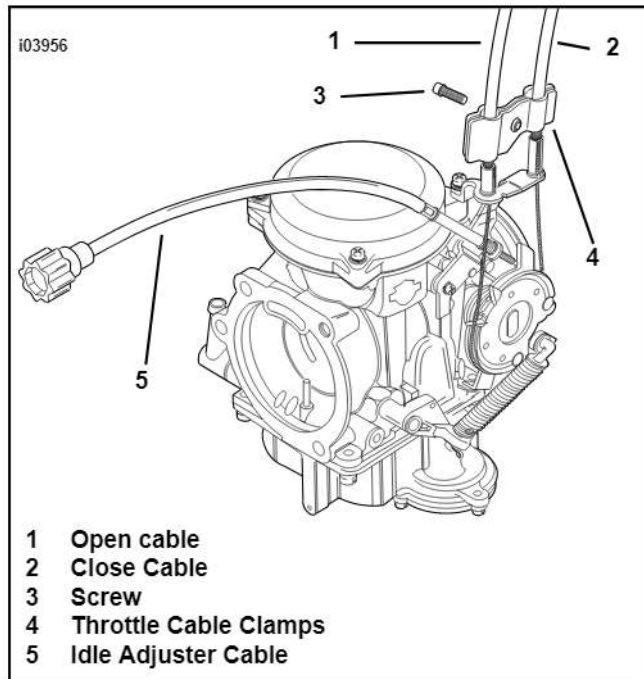

Figure 11. Throttle Cable Installation (Buell)
3. See Figure 11. Remove throttle cable clamps and discard.